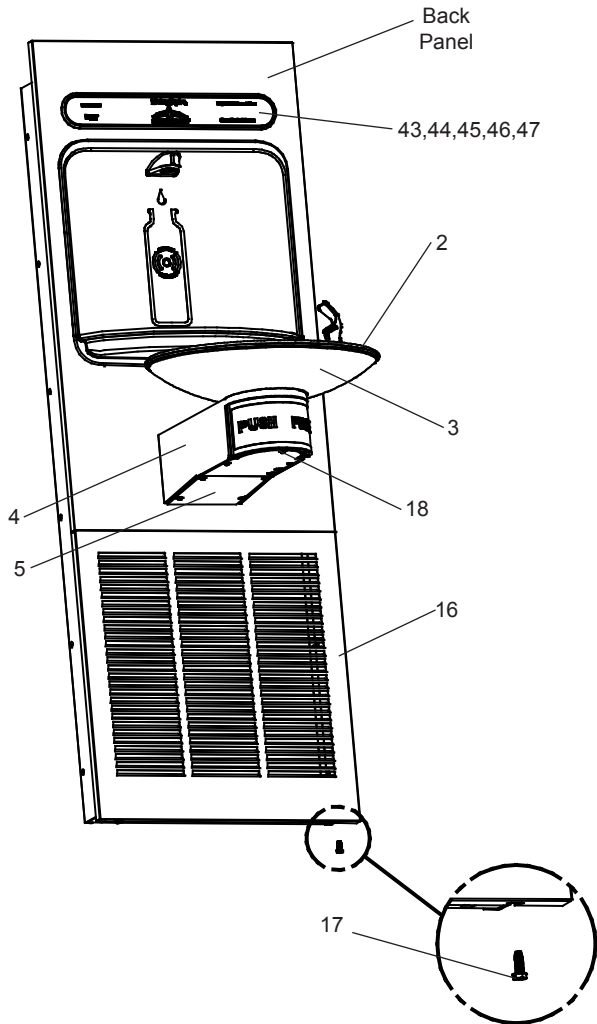

Figure 5 - Lower Panel Installation
16. **Install the bottom panel, tighten screws** (Fig 5).